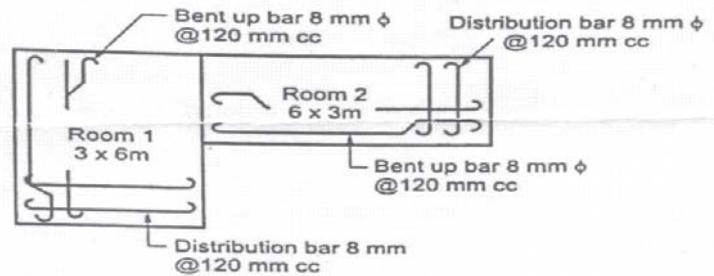

Fig no 2
- b) Determine quantity to steel reinforcement in slab for both room from fig no 2 in 8 mm  $\phi$  bar provided @ 120mm c/c along short and long span with alternate bar bent up at support. Determine the quantity of reinforcement. [9]